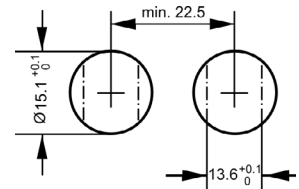

Figure 9: Panel cut out in cabinet for ID 13065; numbers refer to mm
The female plug of the sensor extension cable can be mounted on the cabinet wall with a thickness of up to 6.5 mm/ 0.26 inch (for panel cut-out refer to Figure 9).
- The cut-out panel with its dimensions and distances is indicated in Figure 9 and/or 10.